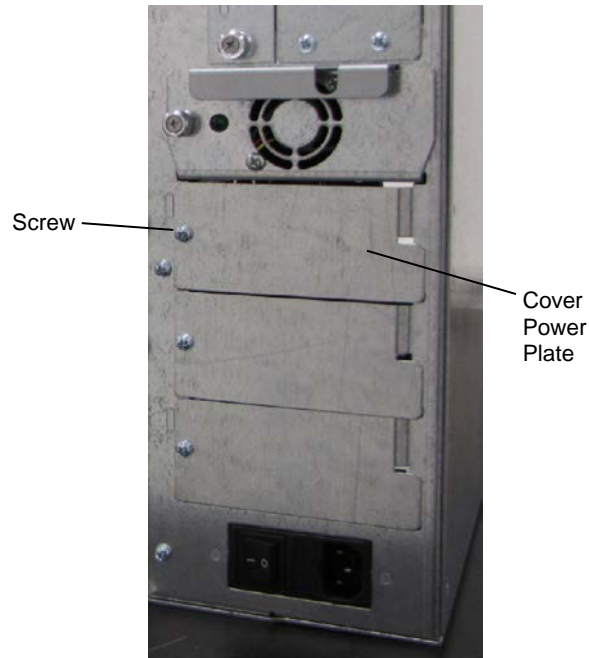

Figure 7-7 Cover Power Plate shown on rear of RLS
1. Place the Cover Power Plate into the power supply opening with the tabs as shown in Figure 7-7.